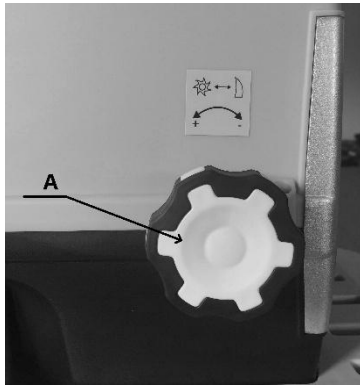

Fig. 5A
- Turn the counter plate adjustment knob (A) clockwise until you hear a slight rubbing noise and fine aluminum shavings fall out of the discharge channel for a short time. (Fig. 5A and 5B)